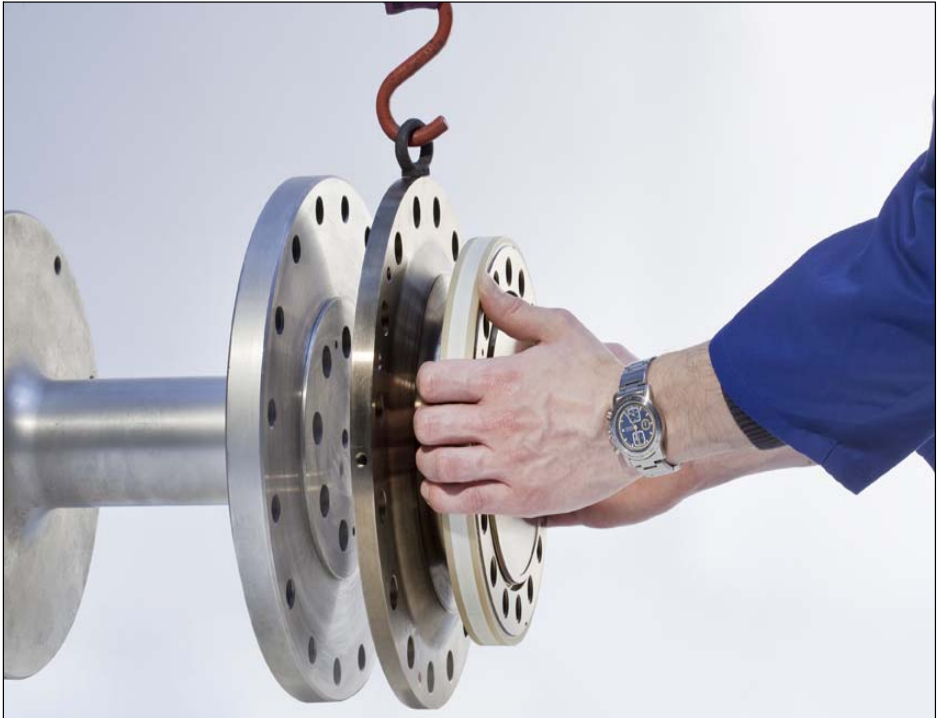

Fig. 5.3 Rotor installation (horizontal)
3. If the rotor is to be installed horizontally as shown in Fig. 5.3, remove *one* mounting eye bolt. Both mounting eye bolts can initially remain in the flange for vertical installation.